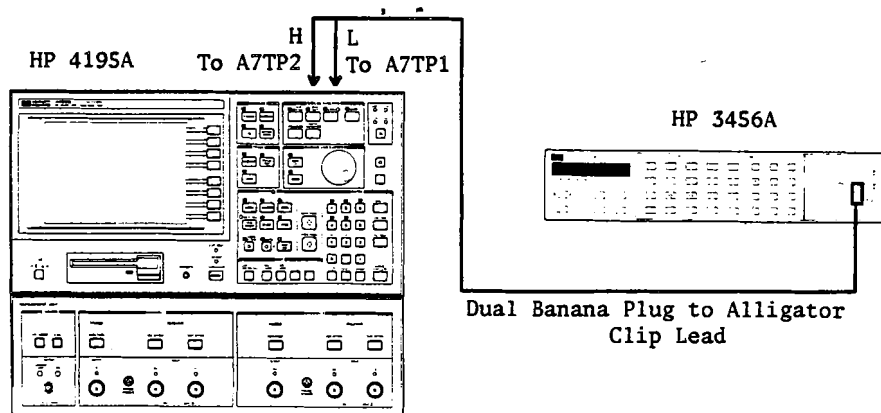

Figure 3-4. Output Voltage Adjustment Setup
1. Connect the Voltmeter low lead to A7TP1, and high lead to A7TP2 as shown in Figures 3-4 and 3-5.